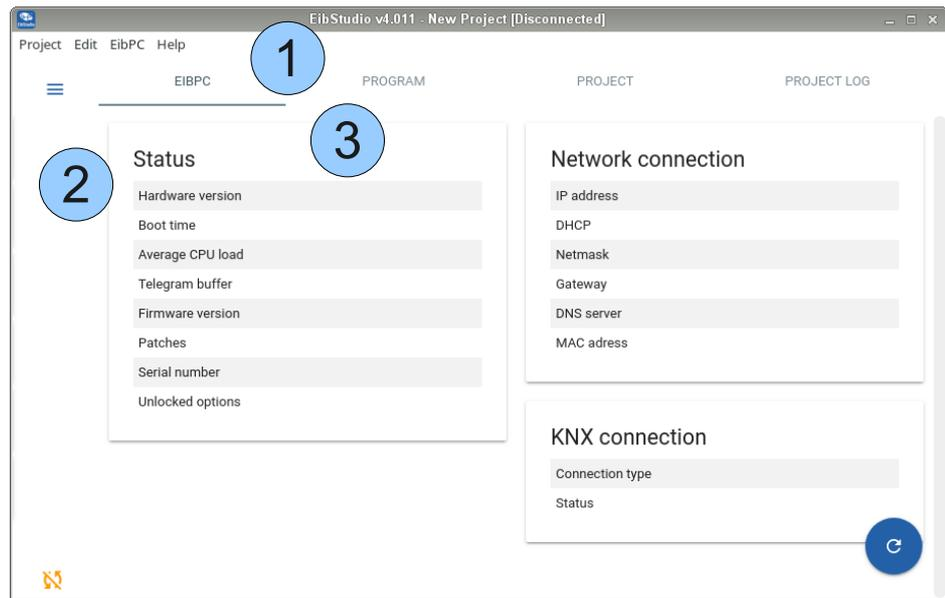

Figure 9: Overview
Figure 9 shows the main navigation elements. With an active project, the title menu (1) is extended by functions often used. The project menu can be made visible with the project menu button (2). This menu is used to navigate between the different components of the project. Some of the components use tabs (3).